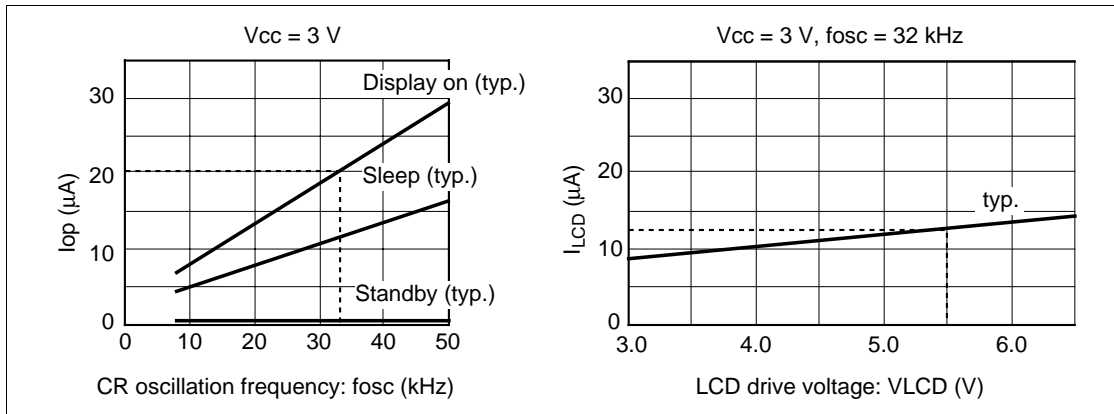

Figure 60 Relationship between the Operation Frequency and Current Consumption
8. Applies to the resistor value (RCOM) between power supply pins V1OUT, V2OUT, V5OUT, GND and common signal pins (COM1 to COM24, COMS1 and COMS2), and resistor value (RSEG) between power supply pins V1OUT, V3OUT, V4OUT, GND and segment signal pins (SEG1 to SEG72 (96)), when current I_d is flown through all driver output pins.
11. The following shows the relationship between the operation frequency (f_{osc}) and current consumption (I_{cc}) (figure 60).